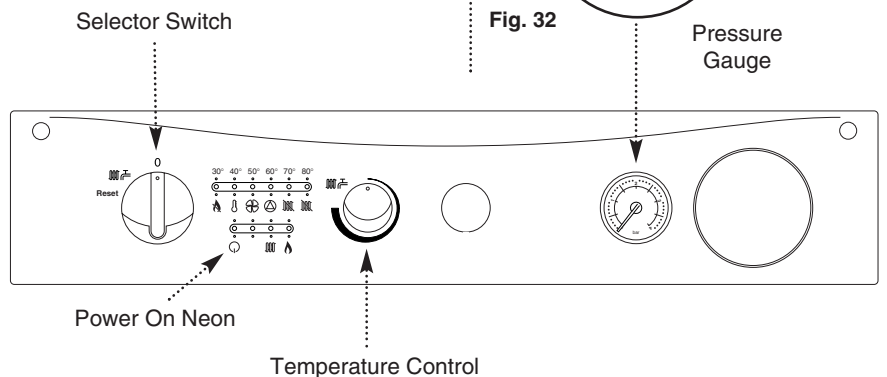

Fig. 33
2. Set the temperature control to maximum and the selector switch to the Off position (Fig. 33).
6. Turn the selector switch to the Central Heating and Domestic Hot Water position (000 2). The power On neon (Q) will illuminate (Fig. 33).